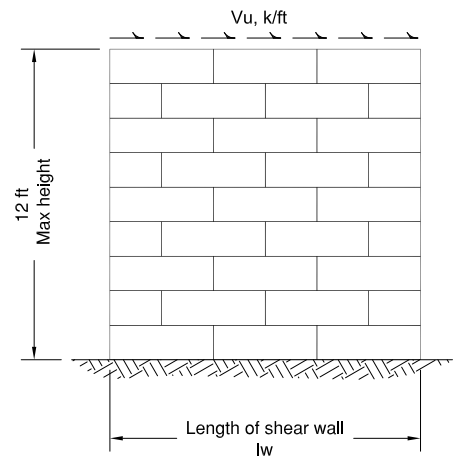

FIGURE 1: ELEVATION
1. Shear wall Figures 1 to 4 to be used in conjunction with Tables 6A and 6B.
- Table 6A to be read in conjunction with Shear Wall Figures 1 to 4.
1. Table 6B to be used in conjunction with Shear Wall Figures 1 to 4.